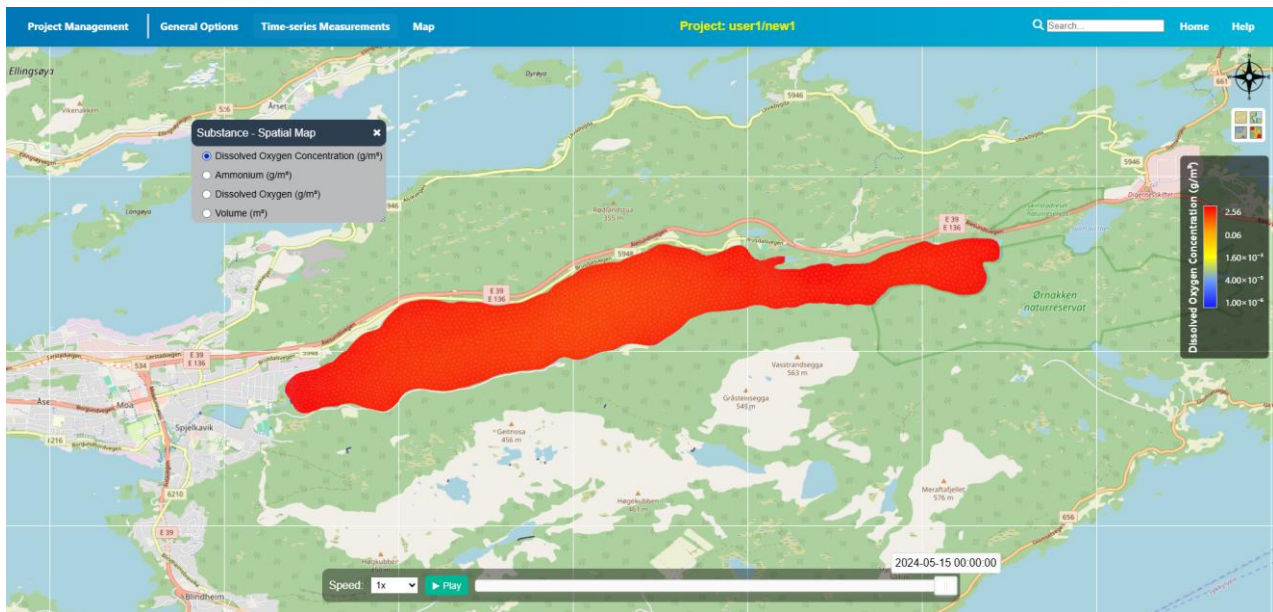

Figure 5.10. A single layer dynamic map for WAQ simulation
- Menu “Map” allows user to see many types of dynamic maps including single layer and multiple layer. An example of a single layer dynamic map is shown in Figure 5.10. User can change type of substance from an additional window, and click button “Play” to see animation.